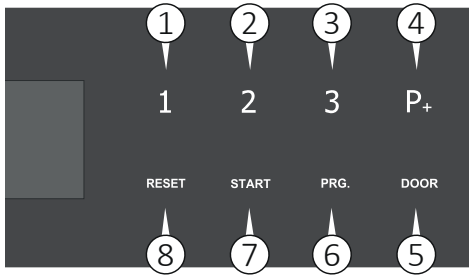

Fig. 11
- 1) Open the door using the “DOOR” button on the touch screen (4 Fig. 11), if the door is already open, leave it opened;
- 3) Press and hold the button corresponding to the dosing pump you wish to activate to manually load the hydraulic system: key 1 (1 Fig. 11) on the touch screen for pump DOS1; key 2 (2 Fig. 11) on the touch screen for pump DOS2; key 3 (3 Fig. 11) on the touch screen for pump DOS3; key P+ (4 Fig. 11) on the touch screen for pump DOS4.